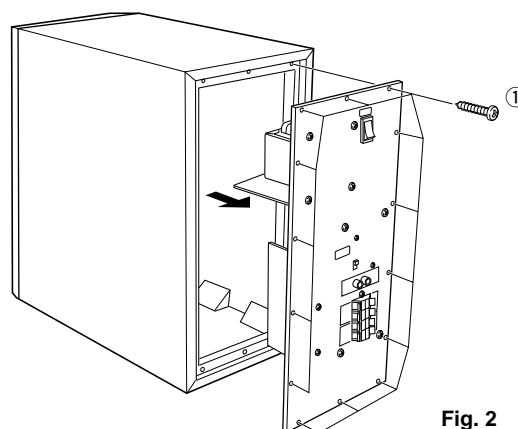

Fig. 2
Remove 14 screws (①) in Fig. 2.